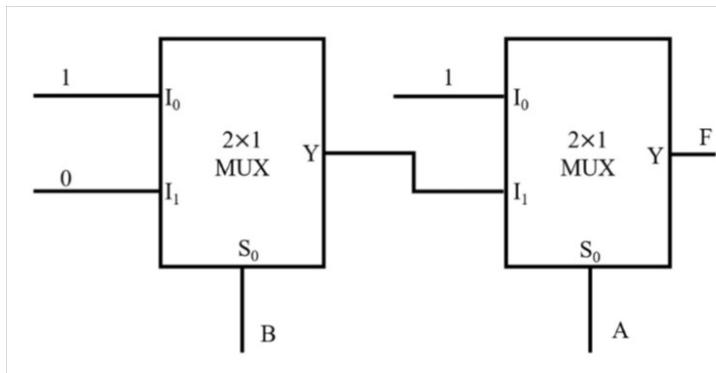

Fig. 4.26
42. The output F of the digital circuit shown in Fig. 4.26 can be written in the form(s) _____